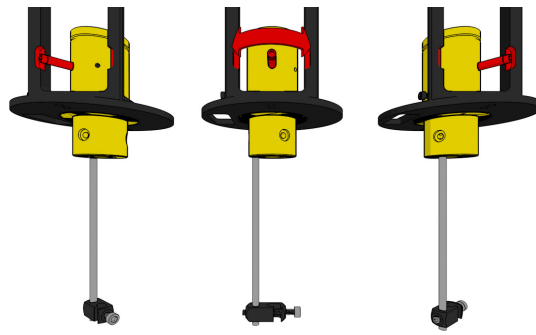

Figure 2.4: Torque Sensor Mechanism, in **Left**, **Center** and **Right** Positions
7. Move the **Torque Sensor** to be between the two **Sensors**, a position called **Center** (Fig. 2.4). Adjust the clamp orientation at center so the length of the **Clamp** is perpendicular to the length of the **Electrical Connector** (Fig. 2.2b).